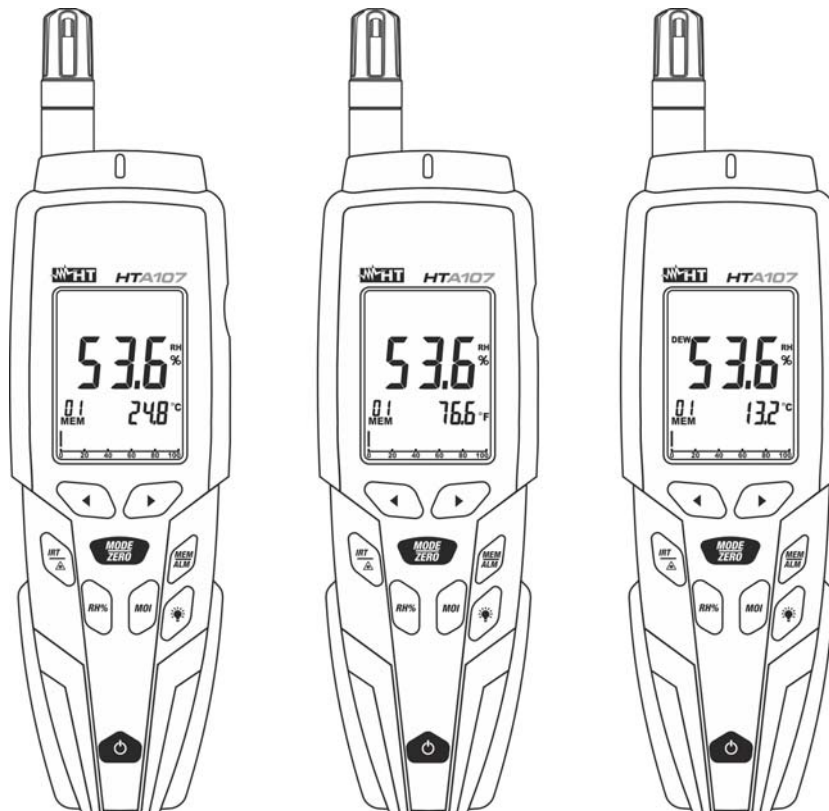

Fig. 7: Use of the instrument for measuring air temperature/humidity
4. Press key **MODE/ZERO** to select measurement of dew point temperature and specific humidity expressed in “g/kg” or “GPP” (see § 4.3.6). The value of dew point temperature is shown on the secondary display (see Fig. 7 – right side).